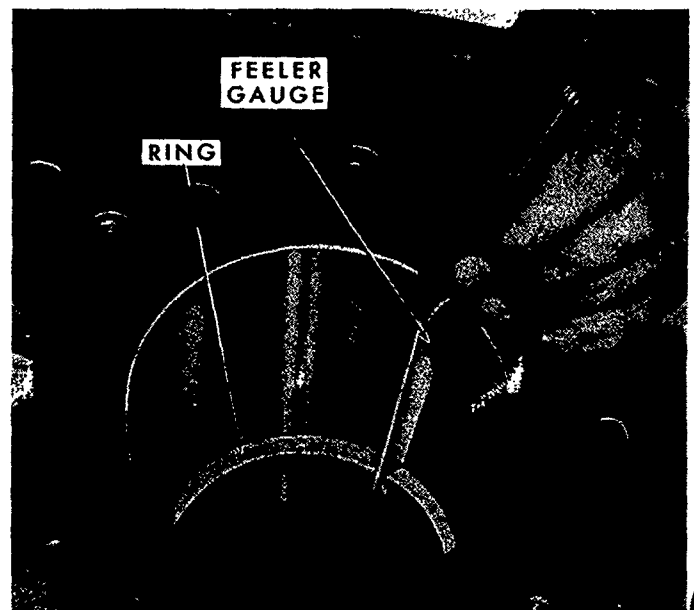

Figure 54
2. Check the gap between the ends of the ring with a feeler gauge, Figure 54. The ring gap should be as specified on page 65. It is important that all rings have at least the minimum gap clearance to provide for the expansion